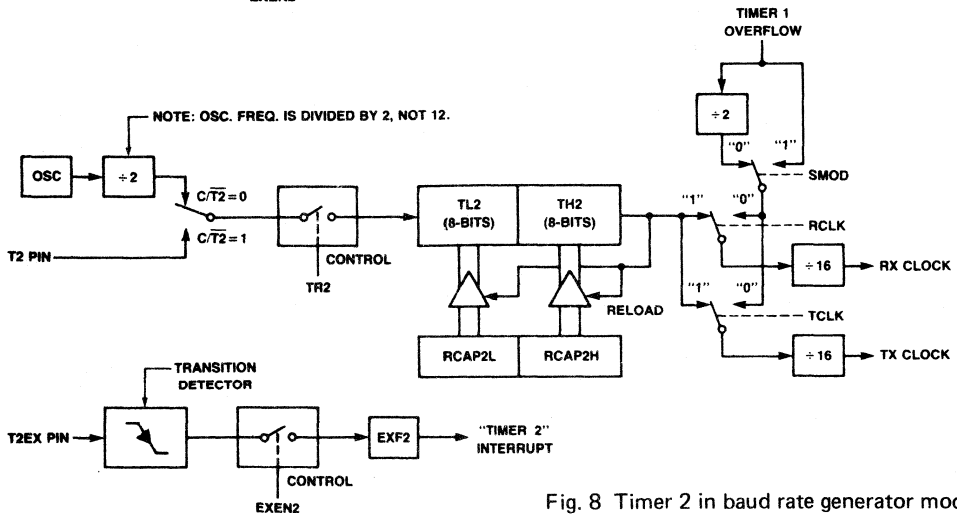

Fig. 8 Timer 2 in baud rate generator mode.
**Baud rate generator mode** (see Fig. 8)